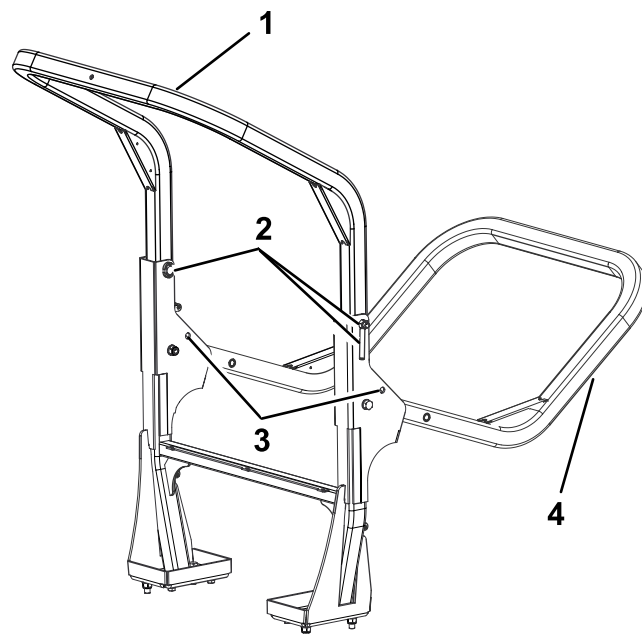

Figure 28
2. Support the weight of the upper frame of the roll bar while removing the snap pins and clevis pins from the pivot brackets (Figure 28).